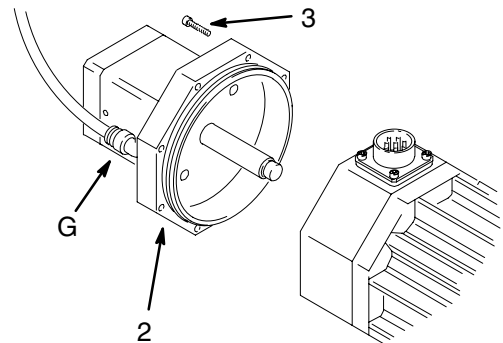
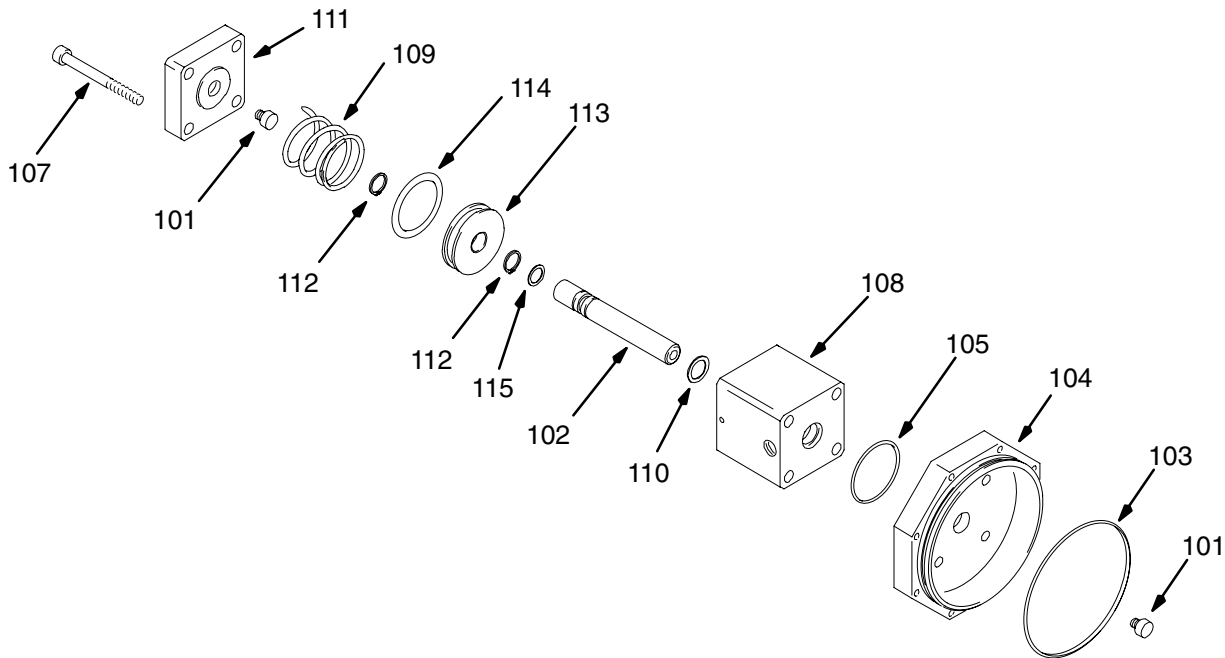

Fig. 4
Fig. 6
3. Disconnect the fluid lines from the metering valve fluid inlet (A) and outlet (B).
4. Disconnect the closer air line from the closer air inlet (G). See Fig. 4.
6. Connect a compressed air supply to the closer air inlet (G). Actuate the cylinder with about 50 psi (3500 kPa, 3.5 bar) air pressure to retract the closer rod and keep the closer spring compressed.
7. Remove the eight screws (3) from the closer assembly (2), and remove the closer assembly. See Fig. 4.
9. Disconnect the air line from the closer air inlet (G).
10. Press down on the cylinder body cover to prevent the parts from springing apart, and remove the screws (107) from the closer cover. See Fig. 6.
11. Remove the cylinder cap (111) from the cylinder (108).
12. Remove the o-rings (103) from the cover (104).
13. Remove the spring (109) from the cylinder body (108). See Fig. 6.
14. Remove the rubber bumpers (101) from the cylinder cap (111) and valve rod (102).
16. Install the o-ring (114) in the cylinder body over the piston (113). Insert the piston and the spring (109) into the cylinder body (108).
17. Apply anaerobic sealant (Loctite® 242 or 243 or equivalent) to the threads of the four screws (107).
18. Compress the spring enough to engage the screw threads into the closer cover. Torque the four screws (107) to 24–30 in-lb (2.7–3.4 N•m).
19. Install the cover o-rings (103).
20. Install the rubber bumpers (101) on the end of the rod closer (102) and the cylinder cap (111).
21. Connect a compressed air supply to the closer air inlet (G). Actuate the cylinder to retract the closer rod and keep the closer spring compressed.
22. Secure the closer assembly to the metering valve with the eight screws (3). See Fig. 4.
24. Disconnect the air line from the closer air inlet (G).